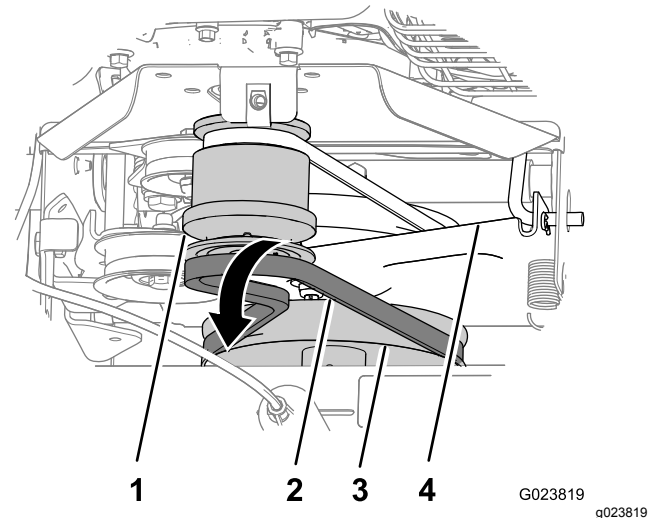

Figure 40
3. Slip the belt forward over the forward groove of the engine pulley (Figure 40).
the traction-control bracket, and remove the belt from the machine (Figure 40).
1. Align the replacement belt between the pulley and the traction-control bracket (Figure 40).
2. Slip the belt onto the groove at the bottom of the broom-gearbox pulley (Figure 40).
3. Slip the belt onto the forward groove of the engine pulley (Figure 40).